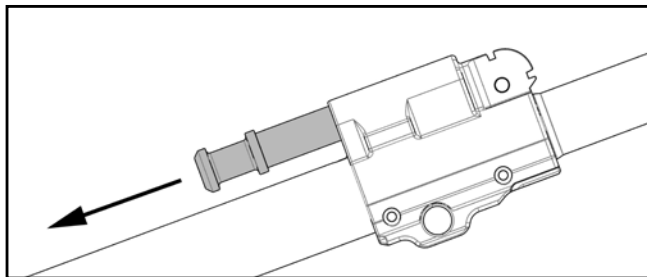

Fig. 33 – Removing Gas Piston
- d. Slide the gas piston to the rear and remove the gas piston from the gas block (Fig. 33).